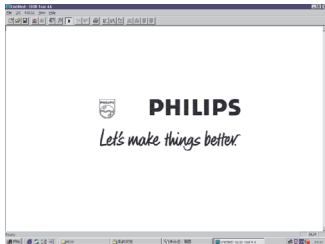
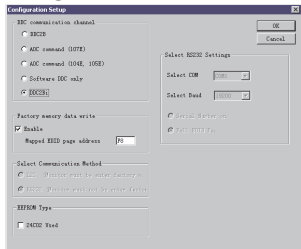

Fig. 11
Fig. 12
- 1. Click icon as shown in Fig. 11 from the tool bar to bring up the Channels "Configuration Setup" windows as shown in Fig. 12.
- 2. Select the DDC2Bi as the communication channel. As shown in Fig. 12.